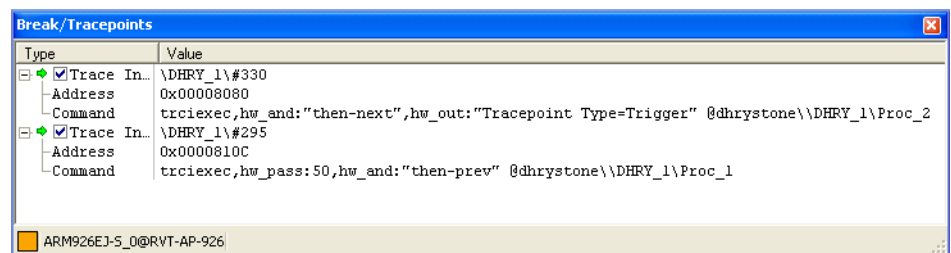

Figure 10-95 Break/Tracepoints view with conditional tracepoints set
5. If you want to view the tracepoint details, select **Break/Tracepoints** from the Code window **View** menu. The Break/Tracepoints view is displayed. Figure 10-95 shows an example: